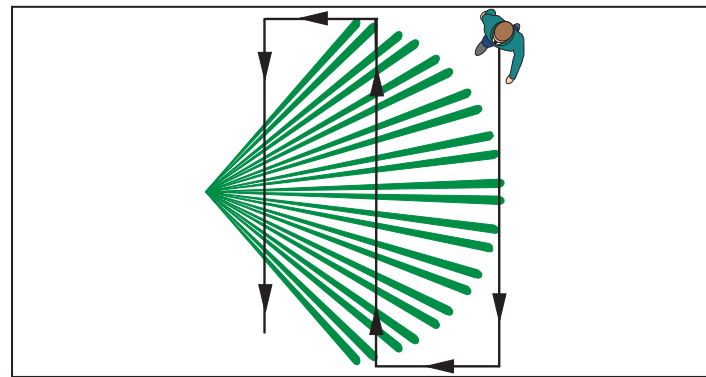

Figure 6.1 Walk test pattern
4. Walk test across the coverage pattern. Refer to *Figure 6.1*.